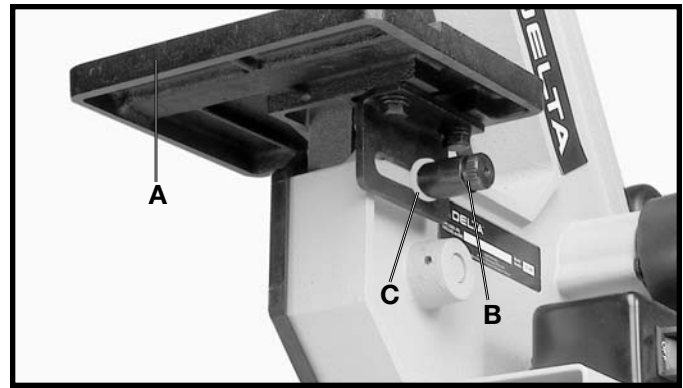

Fig. 17
2. Position the table assembly (A) Fig. 17, in position on the belt sander frame and using locking stud (B), from handle assembly, and flat washer (C), thread locking stud (B) into threaded hole in casting to hold table assembly in place, as shown.